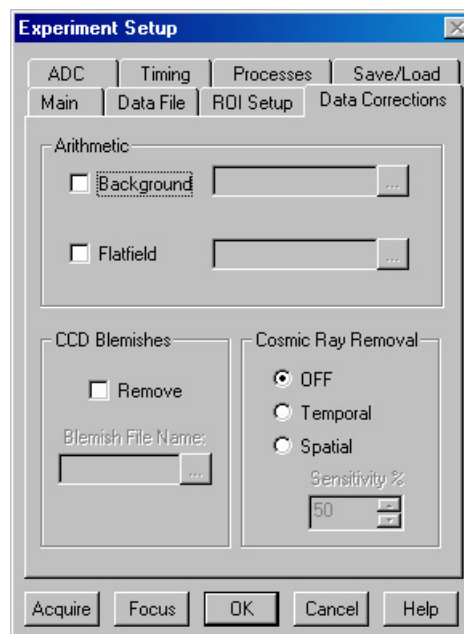

Figure 33. Data Corrections tab page
4. On the **Data Corrections** tab page (Figure 33) all of the correction functions should be OFF.